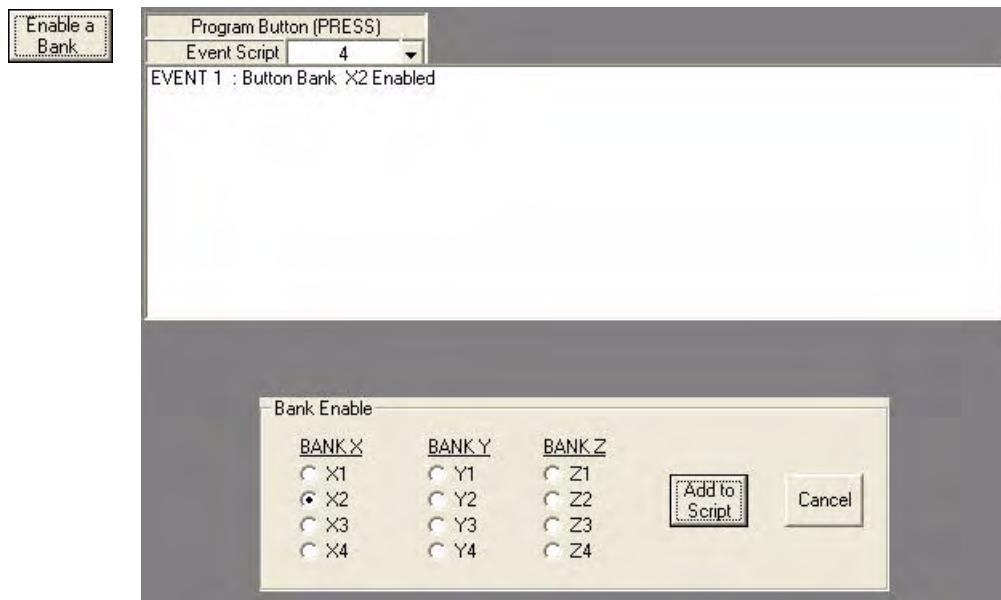

FIG. 80 Button 4 - Button Bank X2 Enabled
- 16.** Click on **Enable a Bank** in the Command Bar; select **X2** and **Add to Script** (FIG. 80).